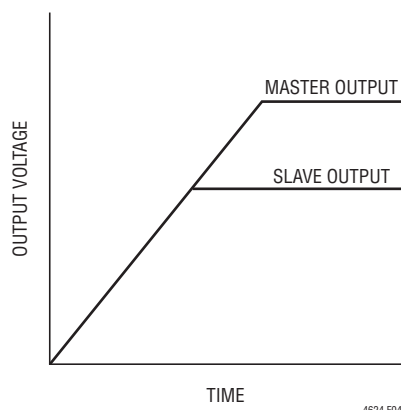

Figure 4. Output Coincident Tracking Waveform
The coincident output tracking can be recognized as a special ratiometric output tracking in which the master's output slew rate (MR) is the same as the slave's output slew rate (SR), waveform as shown in Figure 4.